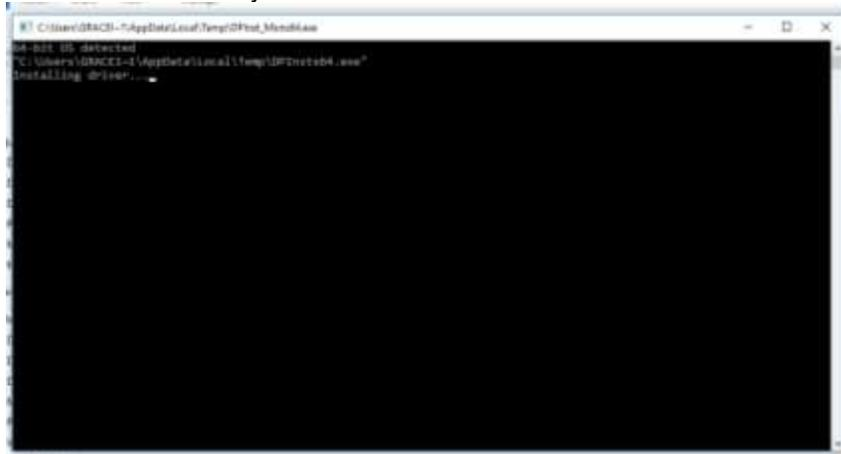

Fig. 1.2.2 – Installing Virtual Comm Port
- Step 4.** The Virtual Comm Port Installer window will open Windows Command Line for installation as shown Below in Fig. 1.2.2). Once the command line states “Installation Complete”. Close the window if it does not close automatically. Continue on to the next section to connect the instrument to the PC.